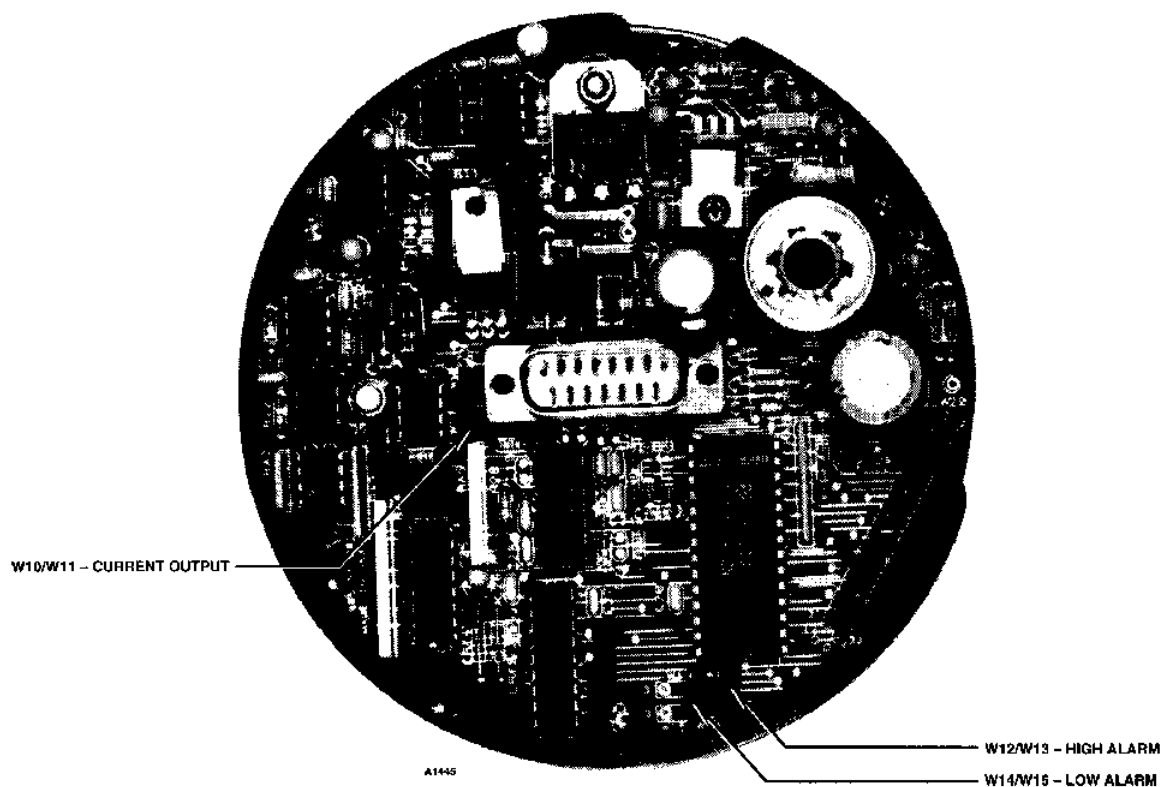
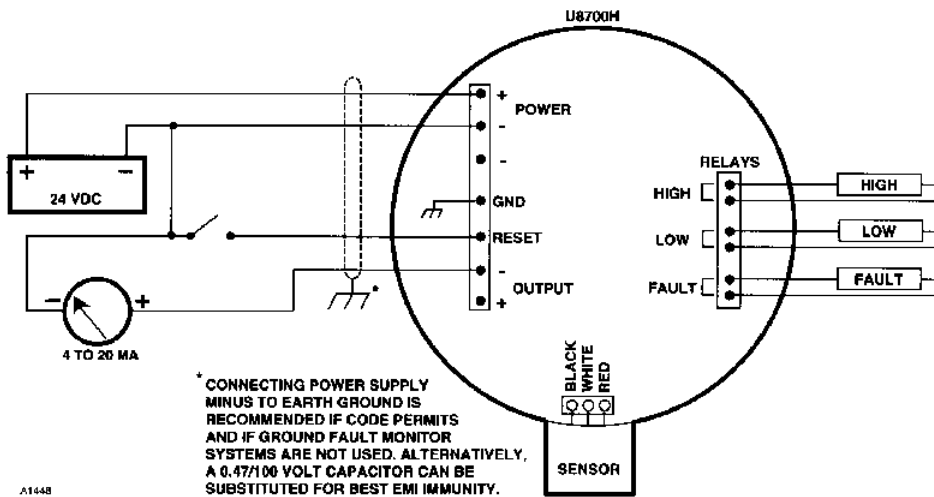

Figure 7—Jumpers on Plug-in Module
Figure 9—Typical System with Non-Isolated Current Output
6. Latching or non-latching alarm relay operation is programmed using jumper plugs on the microprocessor circuit board, which is part of the plug-in electronic module that was removed previously. See Figure 7 to locate the jumper plugs on the microprocessor board. W12 and W13 control the
Non-Isolated Current Output - If the 4 to 20 ma current loop is to be non-isolated, wire the current loop as shown in Figure 9. Program the unit for a non-isolated current loop by placing the jumper plug on W11 (see Figure 7 for location).
Figures 9 and 10 illustrate typical systems and are intended to serve as examples only. For assistance in adapting a system to your individual requirements, contact the Field Support Group at Detector Electronics.